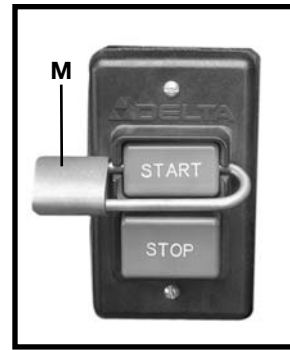

Fig. 18
IMPORTANT: When the tool is not in use, the switch should be locked in the "OFF" position to prevent unauthorized use, using a padlock (M) Fig. 18 with a 3/16" diameter shackle.